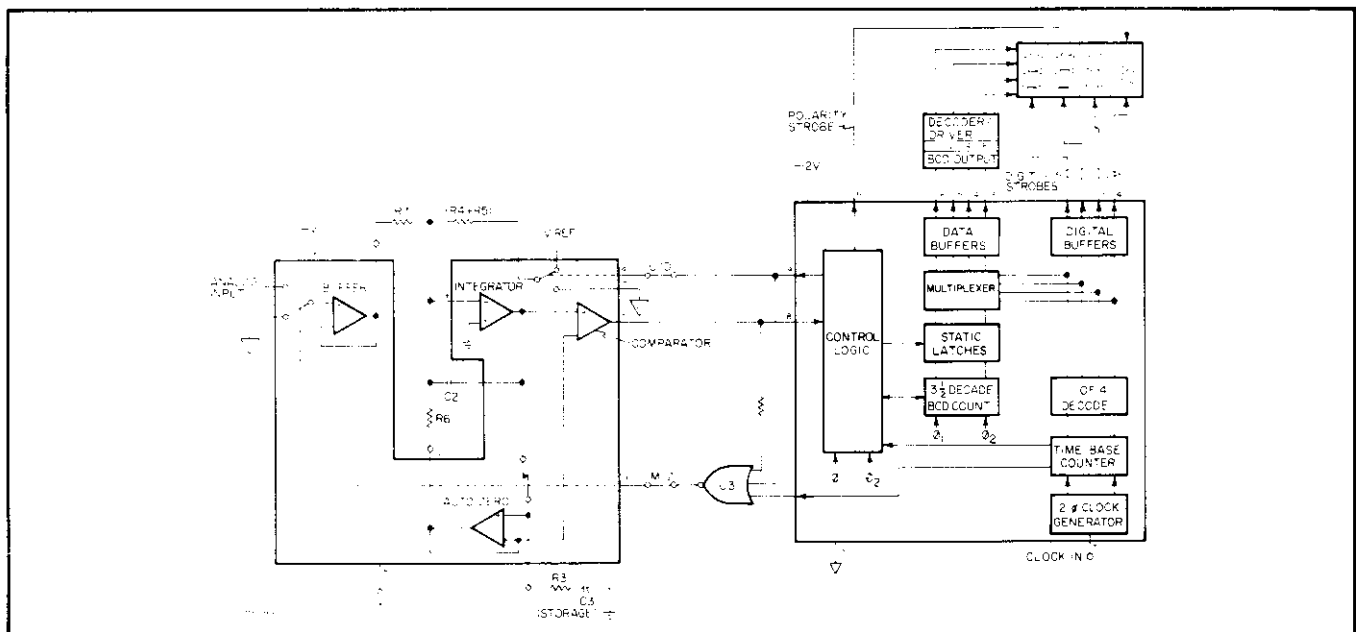

Figure 4-12. Panel Meter Block Diagram.
4-70. Refer to the Panel Meter Block Diagram (Figures 4-12) and Schematic No. 7 for the following discussion.
**4-79. Auto-Zero Interval.** The purpose of the auto-zero interval is to establish an equilibrium voltage which represents the offset introduced by the drift of the analog section. Refer to Figure 4-12 and 4-13 for this discussion.
**4-83. Measure Interval.** Refer to Figure 4-12 and 4-14 for this discussion. Following the 2048 pulse auto-zero interval, the M/Z logic goes high to begin the measure interval. The M/Z logic switches the buffer amplifier input from ground to the analog voltage supplied to the panel meter. It also opens the closed-loop system of integrator and auto-zero amplifier. The voltage-to-current converter comprised of the buffer amplifier and A22R7 supplies a current to the integrator summing node generated by the analog input voltage. This additional current flowing into the integrator summing node disrupts the balance achieved during the preceding auto-zero interval. The result is the integrator output is driven away from the equilibrium voltage maintained as a reference on A22C3. The greater the analog input voltage, the greater the integrator output deviates from the equilibrium voltage. A22CR1 in parallel with the integrator capacitor A22C2 protects the integrator against large positive analog input voltages.